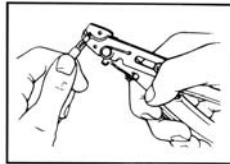

Figure 16
**E.** Remove dielectric at the mark with a simple wire stripping plier (Fig. 16).